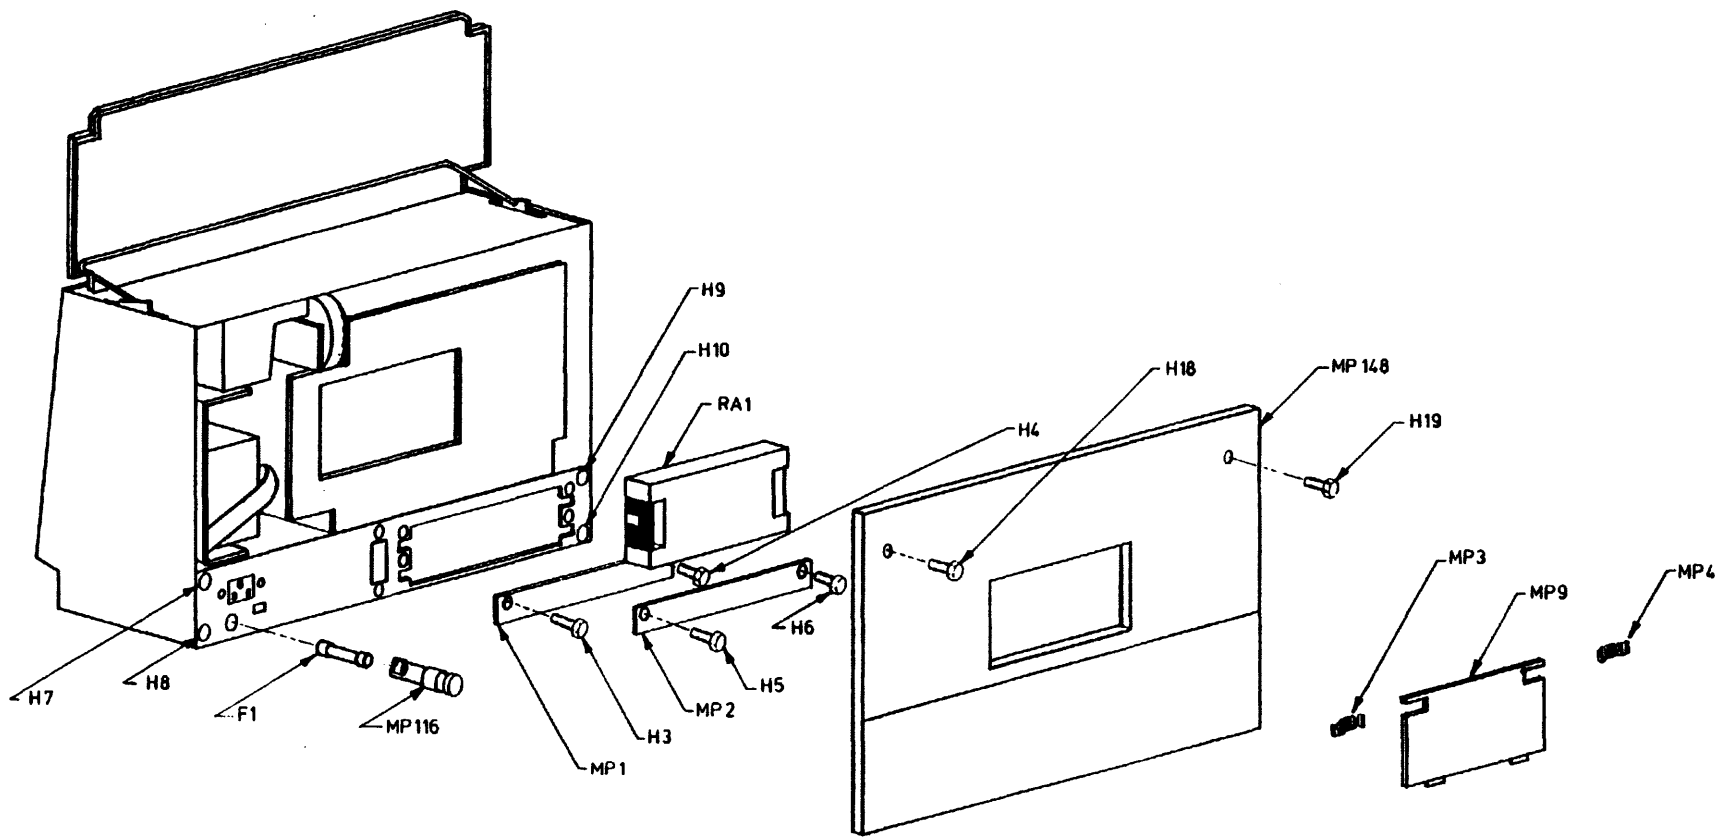

Figure 9-9. Rear Assemblies Exploded View
* This nut is located in front of the I/O backplane PCA (see figure 6-29a). It is not shown in figure 9-9.